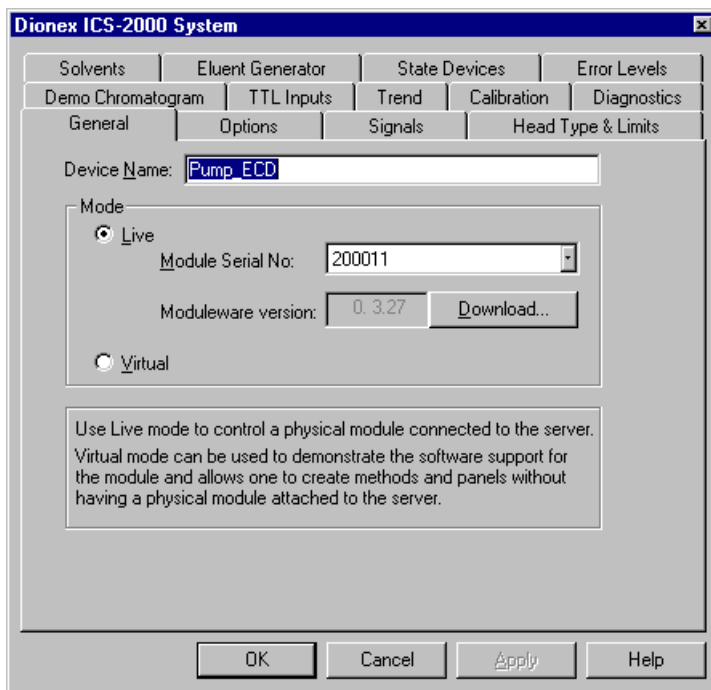

Figure 13. ICS-2000 System Properties
- The ICS-2000 System dialog box opens (see Figure 13). The **General** page shows the Device Name (**Pump_ECD**), the Mode (**Live**), and the Module Serial No.